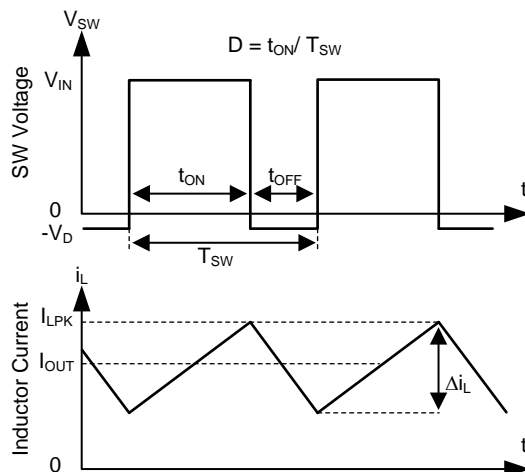

Figure 13. SW Node and Inductor Current Waveforms in Continuous Conduction Mode (CCM)
The following operating description of the LMR23630 refers to the Functional Block Diagram and to the waveforms in Figure 13. The LMR23630 is a step-down synchronous buck regulator with integrated high-side (HS) and low-side (LS) switches (synchronous rectifier). The LMR23630 supplies a regulated output voltage by turning on the HS and LS NMOS switches with controlled duty cycle. During high-side switch ON-time, the SW pin voltage swings up to approximately V_{IN} , and the inductor current i_L increase with linear slope $(V_{IN} - V_{OUT}) / L$. When the HS switch is turned off by the control logic, the LS switch is turned on after an anti-shoot-through dead time. Inductor current discharges through the LS switch with a slope of $-V_{OUT} / L$. The control parameter of a buck converter is defined as duty cycle $D = t_{ON} / T_{SW}$, where t_{ON} is the high-side switch ON-time and T_{SW} is the switching period. The regulator control loop maintains a constant output voltage by adjusting the duty cycle D . In an ideal buck converter, where losses are ignored, D is proportional to the output voltage and inversely proportional to the input voltage: $D = V_{OUT} / V_{IN}$.